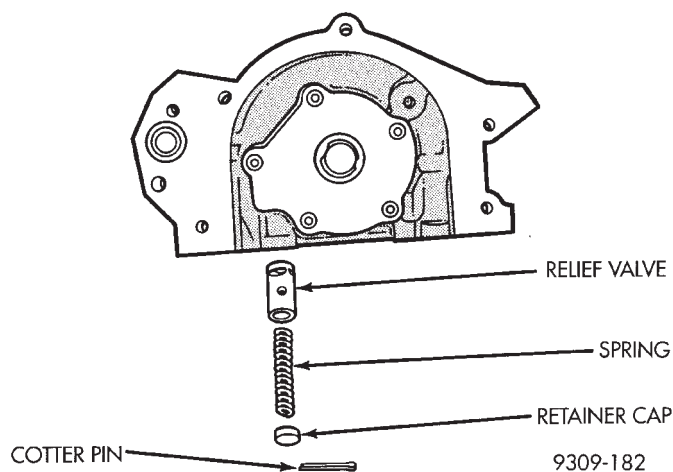

Fig. 104 Oil Pressure Relief Valve
- (1) To remove the relief valve, proceed as follows:
- (2) Remove cotter pin. Drill a 3.175 mm (1/8 inch.) hole into the relief valve retainer cap and insert a self-threading sheet metal screw into cap.
- (3) Clamp screw into a vise and while supporting oil pump body, remove cap by tapping oil pump body using a soft hammer. Discard retainer cap and remove spring and relief valve (Fig. 104).